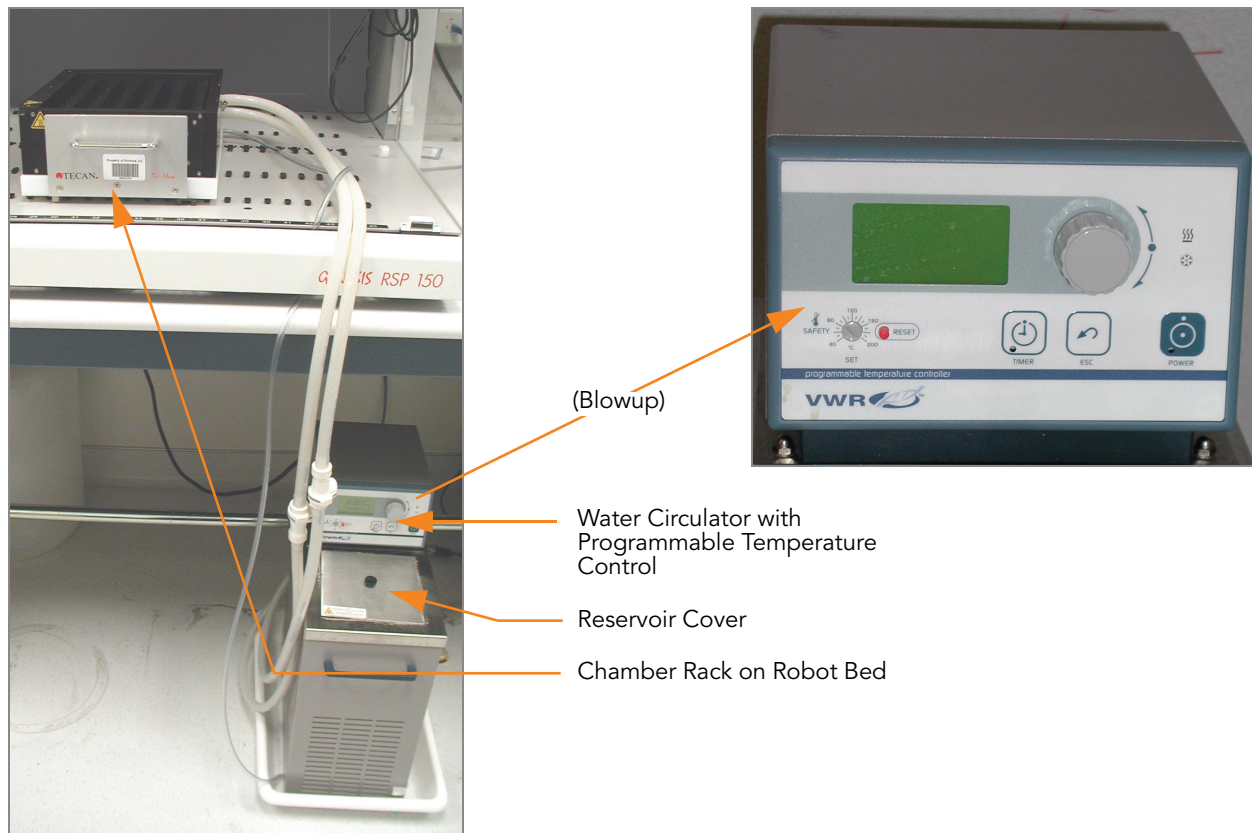

Figure 172 Water Circulator Connected to Chamber Rack
2. Turn on the water circulator and set it to a temperature that brings the Chamber Rack to 44°C at equilibrium (Figure 172).